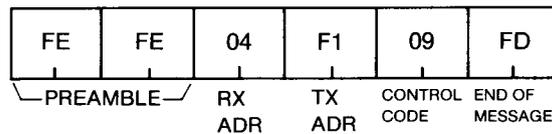

Fig. 39
- (1) The controller can instruct the IC-735 to store the displayed frequency and mode into the displayed memory channel. This is the same function as [Memory Write] on the front panel.
- (2) If the controller sends the packet shown in Fig. 39, the